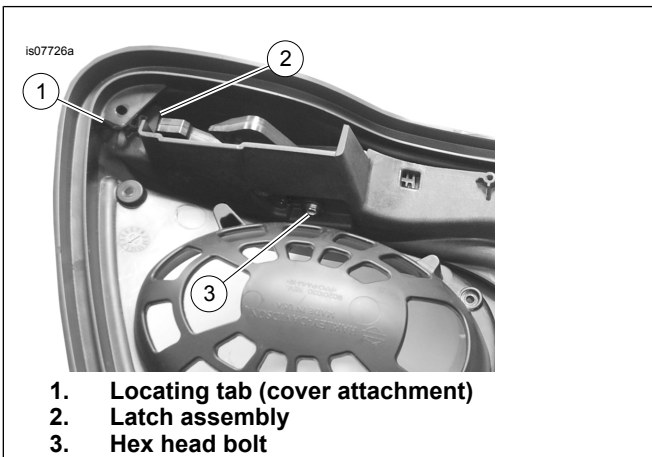

Figure 3. Latch Assembly (Lever end)
- See Figure 3. Position the latch assembly (2) and verify the hex head (3) bolt stayed in position. Lift the latch assembly (end opposite of the speaker) and position the speaker end under the locating tab (1).